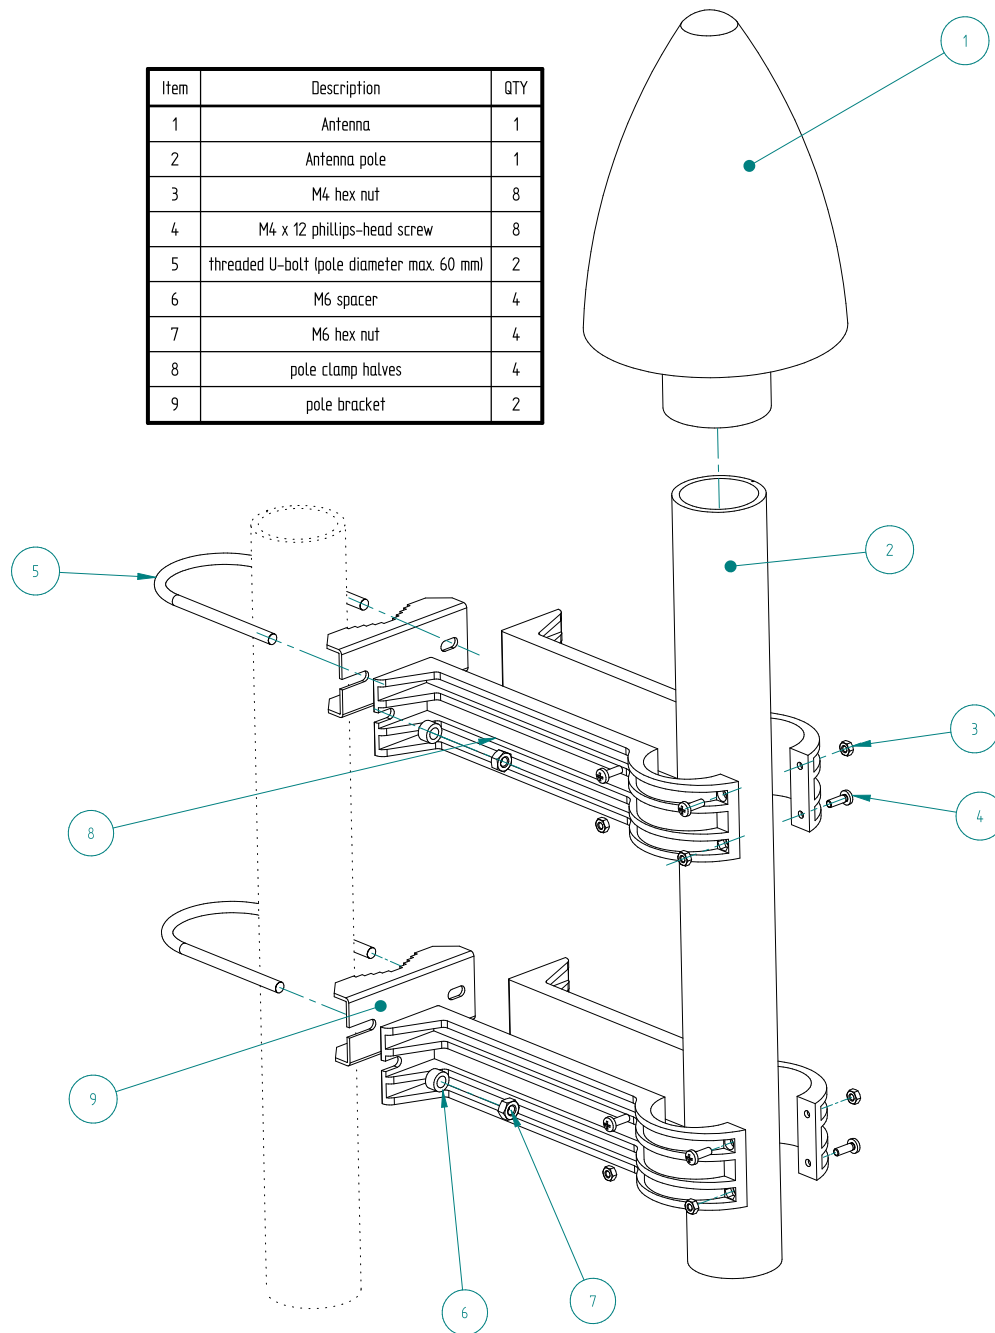

Figure 9.3: Mounting a GNMAntv2 Antenna onto a Mast
Fig. 9.3 illustrates how to assemble and mount a Meinberg GNMAntv2 Antenna on a mast by way of example.
1. Assemble the two pairs of pole clamp halves (Item 8 in  Fig. 9.3) with the mounting tube (Item 2 in  Fig. 9.3) in the clamps. Secure the tube inside each of the two clamps using four M4x12 Phillips screws and corresponding M4 hex nuts (Items 3 and 4 in  Fig. 9.3). To ensure that the clamp is secure as possible, the top and bottom screws of each clamp should be inserted from opposing directions as shown in  Fig. 9.3.
1. Assemble the two pairs of pole clamp halves (Item 8 in Fig. 9.3) with the mounting tube (Item 2 in Fig. 9.3) in the clamps. Secure the tube inside each of the two clamps using four M4x12 Phillips screws and corresponding M4 hex nuts (Items 3 and 4 in Fig. 9.3). To ensure that the clamp is secure as possible, the top and bottom screws of each clamp should be inserted from opposing directions as shown in Fig. 9.3.
2. Place the threaded bolts (Item 5 in Fig. 9.3) around the designated mast pole and feed the two prongs into the holes of the pole bracket (Item 9 in Fig. 9.3). Secure each of the clamps to each of the pole brackets using two spacers and two M6 hex nuts (Item 7 in Fig. 9.3) and tighten until the pole bracket and U-bolt are secure.